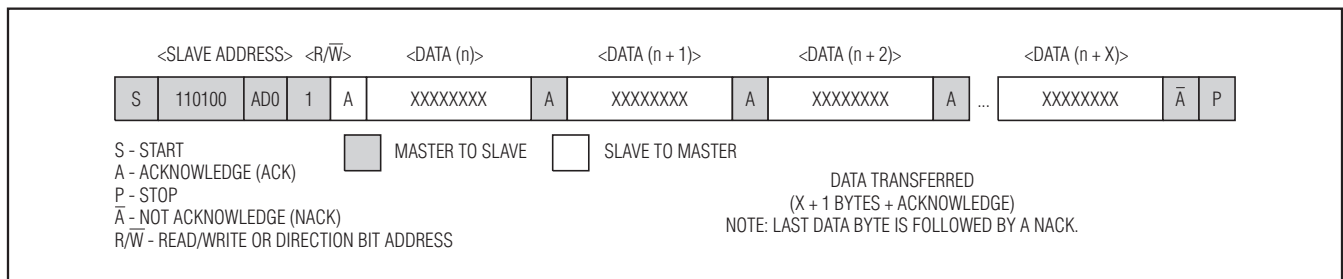

Figure 7. Data Read (from Current Pointer Location)—Slave Transmitter Mode
**2) Slave transmitter mode (DS1372 read mode):** The first byte is received and handled as in the slave receiver mode. However, in this mode, the direction bit indicates that the transfer direction is reversed. The DS1372 transmits serial data on SDA while the serial clock is input on SCL. START and STOP conditions are recognized as the beginning and end of a serial transfer (see Figure 7). The slave address byte is the first byte received after the master generates the START condition. The slave address byte contains the 7-bit DS1372 address, which is 110100 and AD0. Each slave address is followed by the